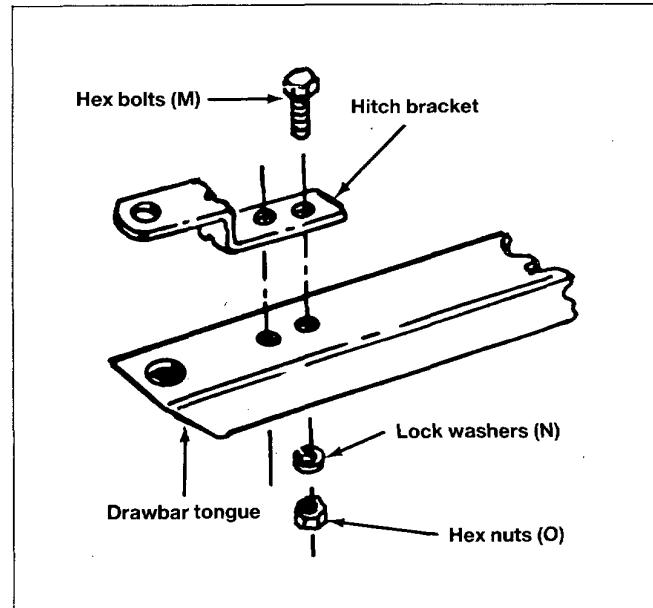

Fig. 14
19. Assemble hitch bracket to drawbar tongue, using 3/8" x 1" (10x25 mm) long hex bolts (M), lock washers (N) and hex nuts (O). See figure 14.